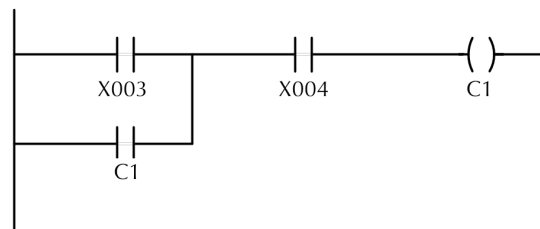

Figure 7.13: Latch Circuit
In this section, you will use a coil instruction to implement a latch circuit similar to a Low Voltage Protection Motor controller as shown in Figure 7.13. This circuit uses the green, normally open switch as a start switch, and the red, normally-closed button as the off switch to control the condition of coil C1. Then you will create a similar circuit using a Set/Reset coil.
- 12. Modify your project to build the program shown in Figure 7.13. Give the coil the Bit Memory Address C1.